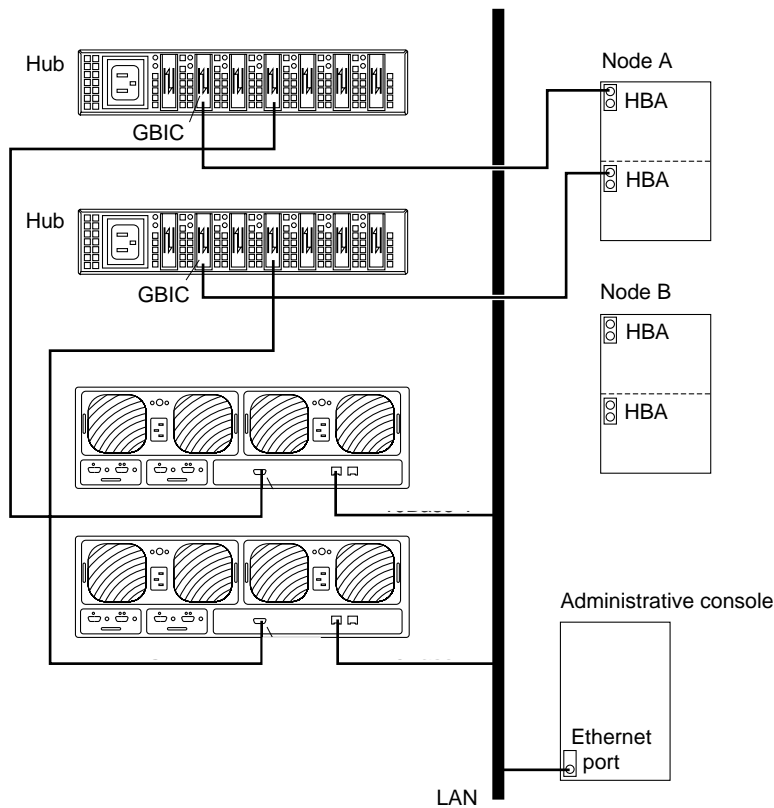

FIGURE C-3 Adding a StorEdge T3/T3+ Disk Tray in a Single-Controller Configuration
20. If necessary, install gigabit interface converters (GBIC), as shown in FIGURE C-3.
21. If necessary, connect a fiber-optic cable between the Sun StorEdge FC-100 hub and Node A as shown in FIGURE C-3.